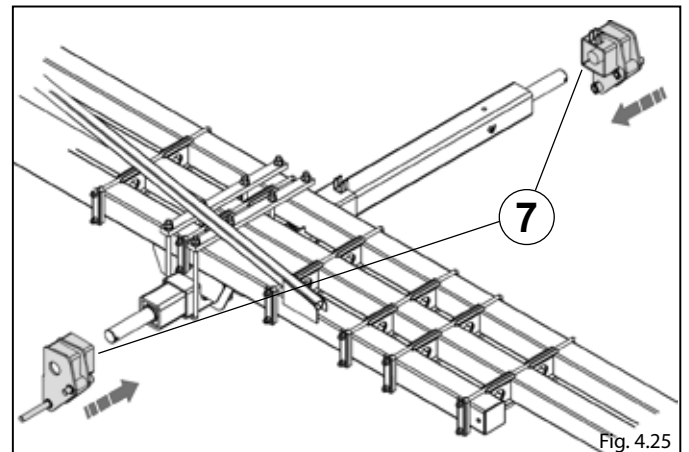

Fig. 4.25
- Mount the attachments for the wheel supports **7** (Fig.4.25)